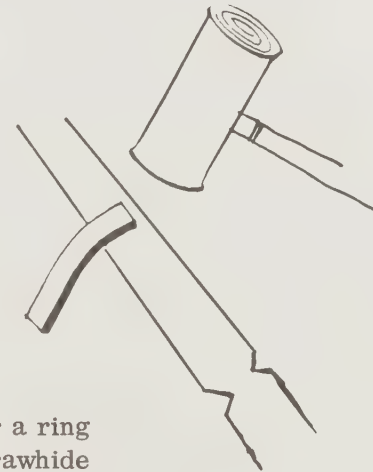

Fig. 29
4. Bend the ends with rawhide mallet over the ring mandrel held in vise or braced against bench pin. See Fig. 29.